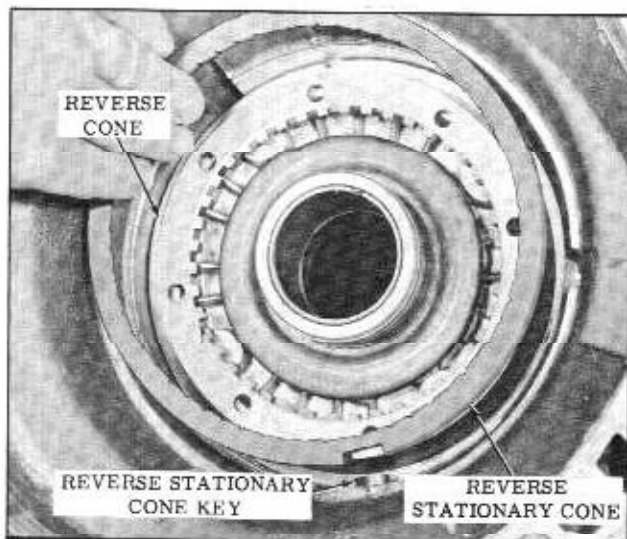

Fig. 3-95 Installing Case Center Support Key
6. Install the reverse stationary cone key into case. (Fig. 3-95)